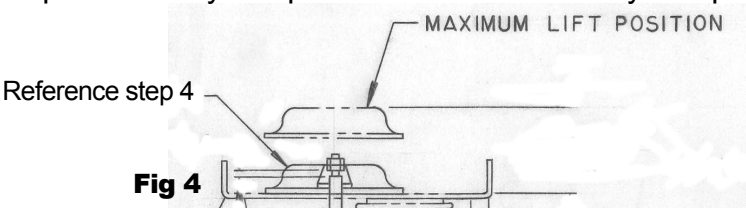

Fig 4
Step 4: Manually compress air lift dome to a fully collapsed position (fig 4).